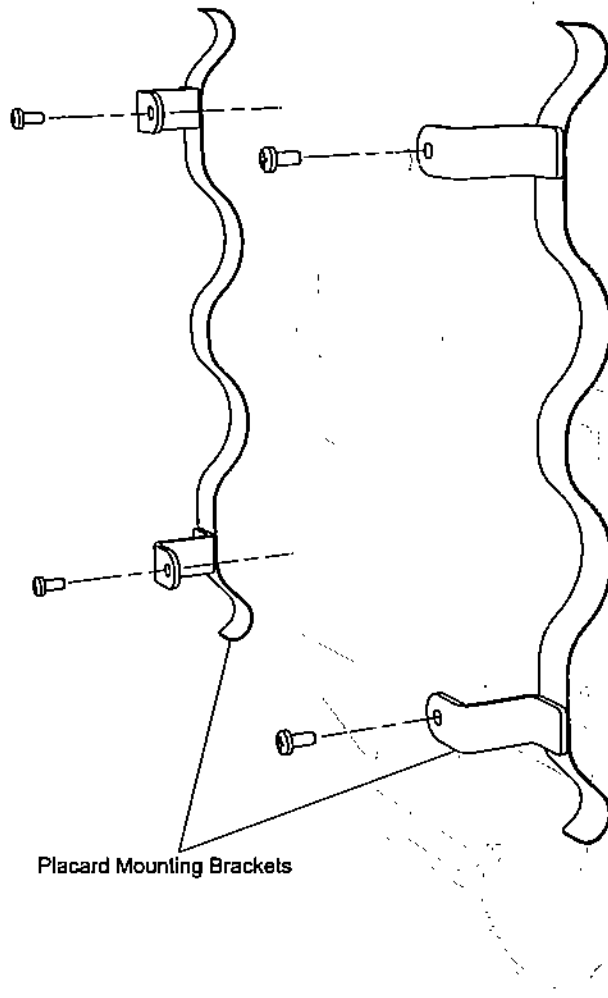

Figure 2-11. Placard Mounting Brackets, Installation
1. Position the mounting brackets on the back of the MK2000 as shown in Figure 2-11 on page 2-20. Attach the mounting brackets using supplied screws.